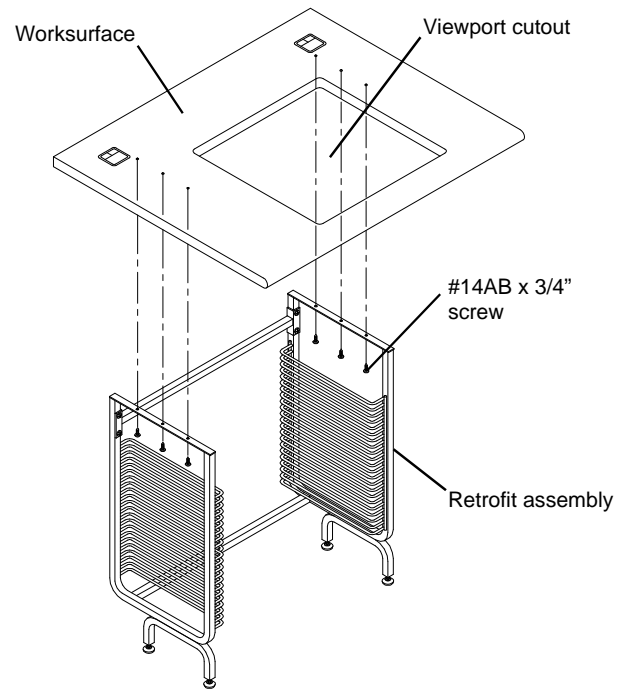

Figure 3
3. Turn the assembly upright and position it underneath the viewport cutout in the Worksurface. Align the holes in the Top Rails with the corresponding holes in the Worksurface and attach with the #14AB x 3/4" screws provided. See **Figure 3**.